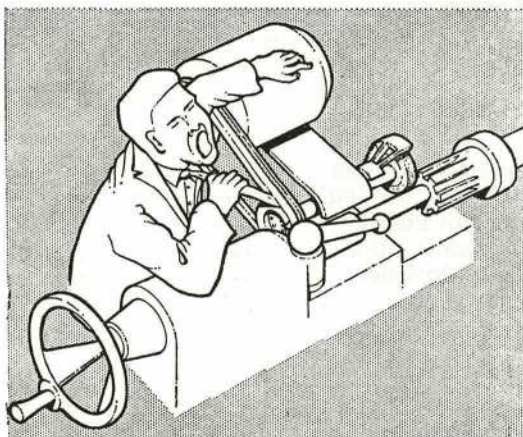

Fig. 3. IT'S NOT FUNNY
4. The clothing worn by personnel working in the machine shop should be close fitting, particularly at such positions as the sleeves. Torn overalls or dust coats, loosely tied scarves or articles of clothing that are liable to be caught in a machine or shafting must not be worn (Fig. 3). Overalls are to be worn at all times fully buttoned up.